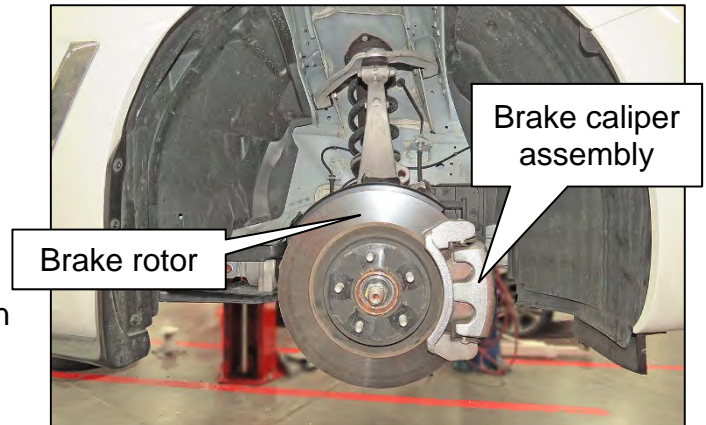

Figure 27
HINT: Two (2) piston caliper shown in Figure 27. Four (4) piston removal is similar.